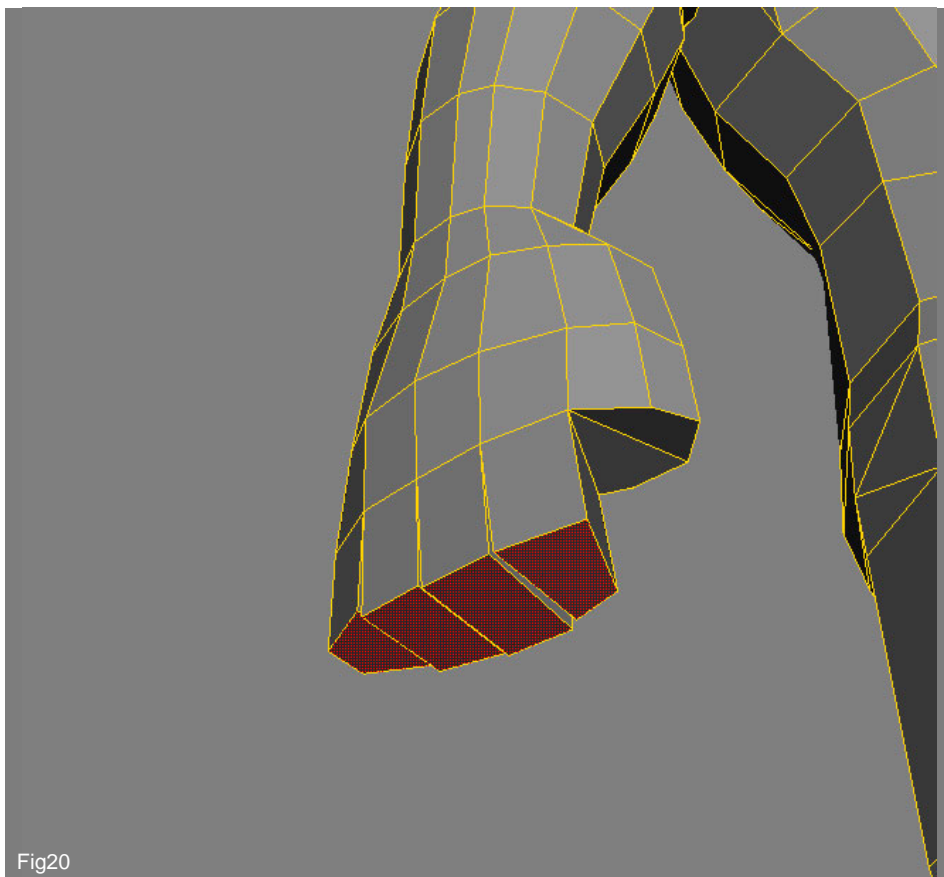

Fig20
20. Now we can extrude the fingers, as shown in Fig 20.